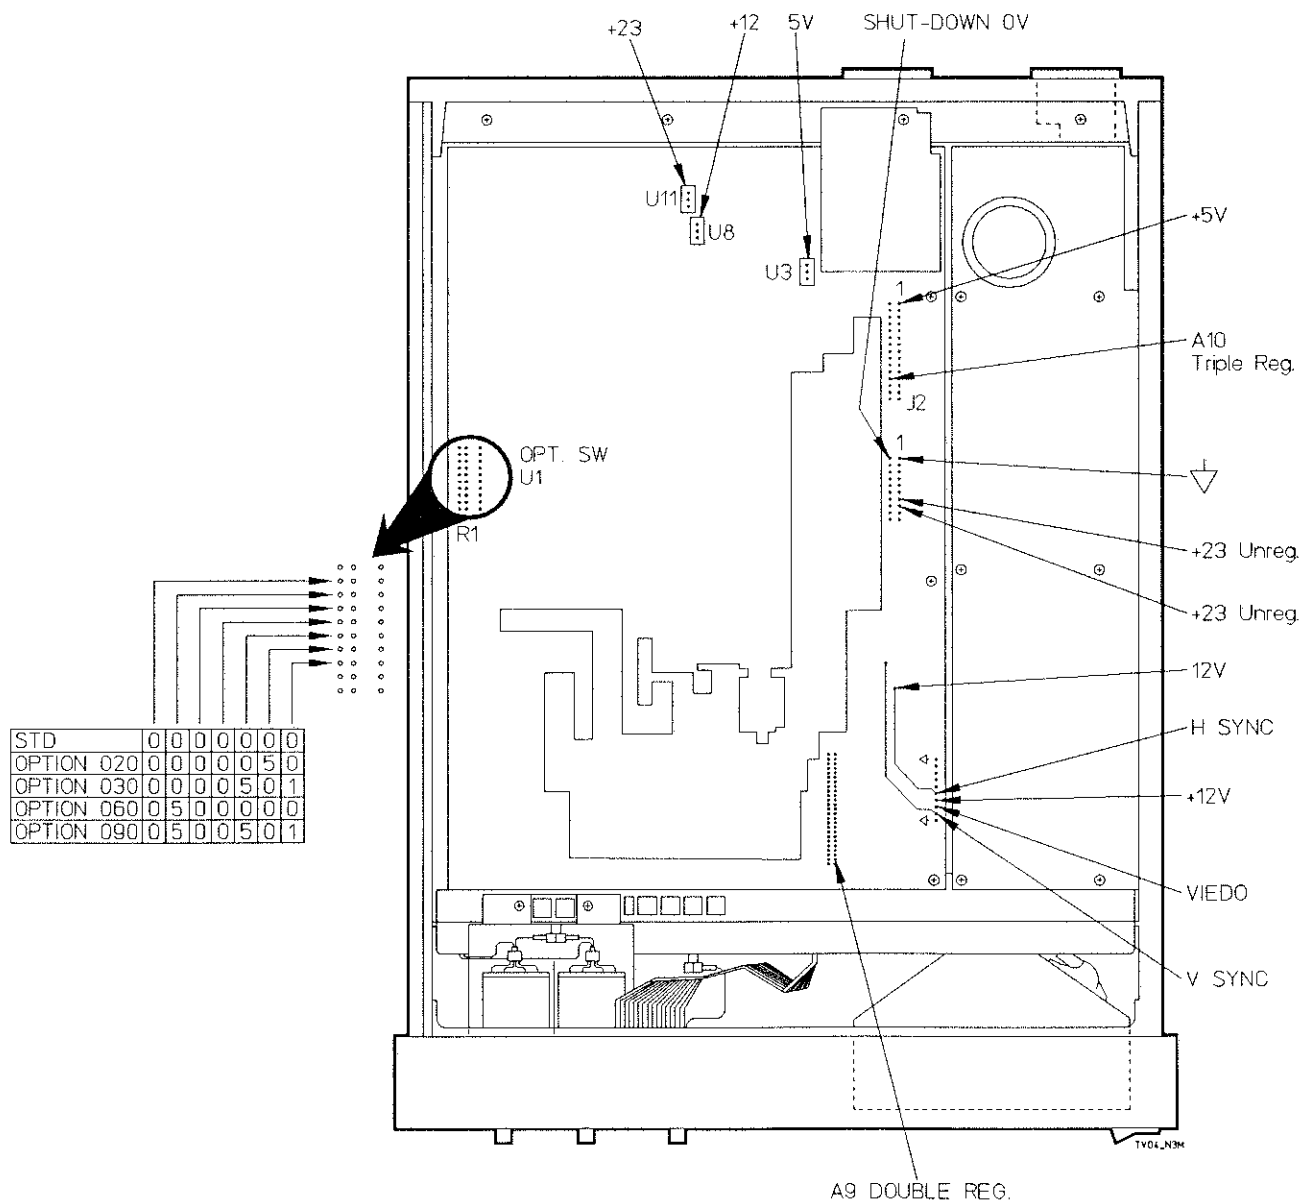

Figure 5-2. A12 Motherboard Voltage Probe Locator
3. Measure voltages and signals on the bottom side of the A12 Motherboard as shown in *Figure 5-2*.